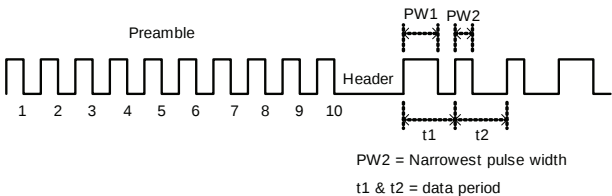

Figure 12. Suggest Data Pattern
7. What kind of data pattern should be used? Many times before the data can be transmitted, some kind of encoding is required in order to guarantee the proper operation of the receiver. Moreover, the information needs to be encrypted when secure applications are the case (remote keyless entry, alarms, etc). Some receivers only work with RZ (return to zero) type of data. If NRZ or non-return-to-zero type of data is used, then the data will need to be changed before being transmitted. Examples are Manchester Encoded Data, 33/66 format, etc). Furthermore, a preamble with at least 10 data periods and 50 percent duty cycle is recommended. The preamble will make the receiver go to its steady-state operation so that, when data is transmitted, the decoder or microcontroller can process the data immediately without losing the first bits that are demodulated by the receiver, see Figure 12. In addition, the data type will dictate how much capacitance is needed for the data slicing circuits (C_{TH} capacitor) and AGC circuits (C_{AGC} capacitor).